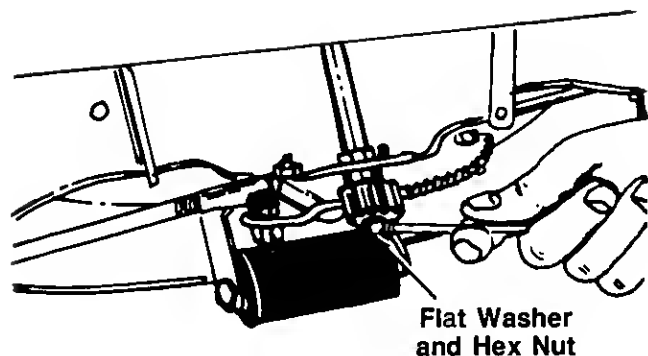

FIGURE 6.
11. Now tighten the hex nut which secures the pinion gear. See figure 6.